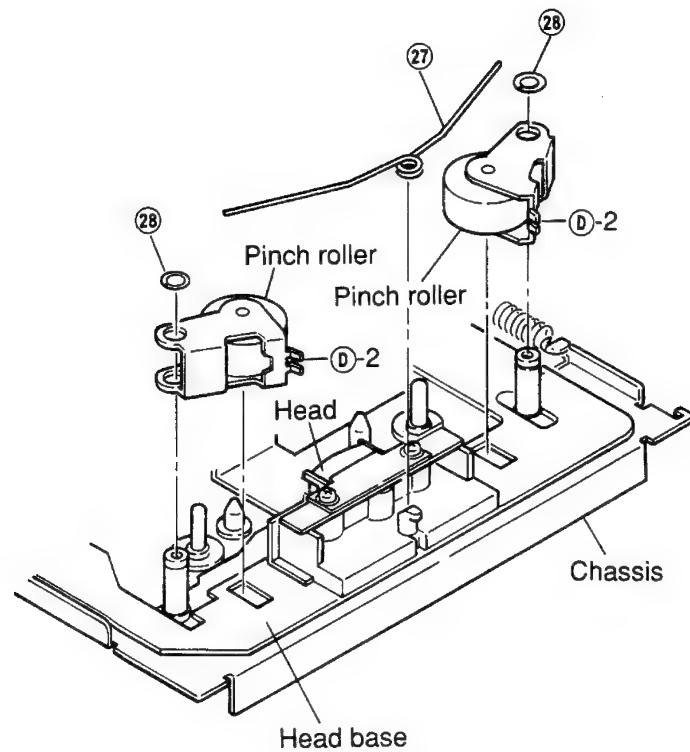

Figure 20
- (1) Remove pinch roller spring ②⑦ as shown in Figure 20.
- (2) Remove M3.1 two lock washers ②⑧ and remove the pinch roller as shown in Figure 20.
- (3) Mount the pinch rollers following the removal steps in the reverse order.
Apply insulation coating to the position ①② of the pinch roller as shown in Figure 20.